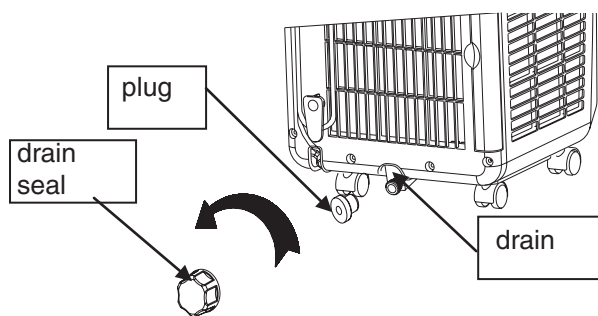

fig. 13
- 1 Unscrew the drain plug and pull out the plug (see figure 13)..